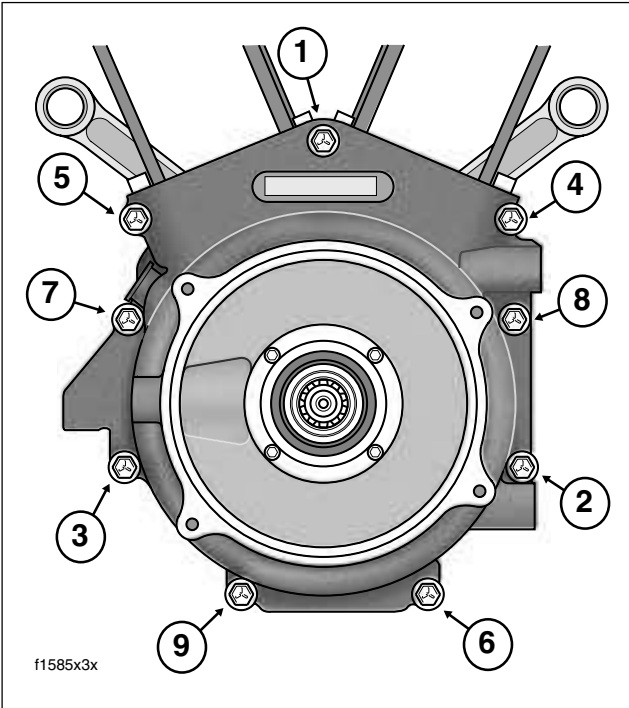

Figure 3-46. Crankcase Torque Sequence
16. Rotate crankcase in the engine stand so that the cam cover flange is facing upward. Remove the nine crankcase bolts in the left case half. Follow the sequence shown in Figure 3-46.
- b. Tighten the crankcase bolts to 10 ft-lbs (13.6 Nm) in the sequence shown in Figure 3-46.